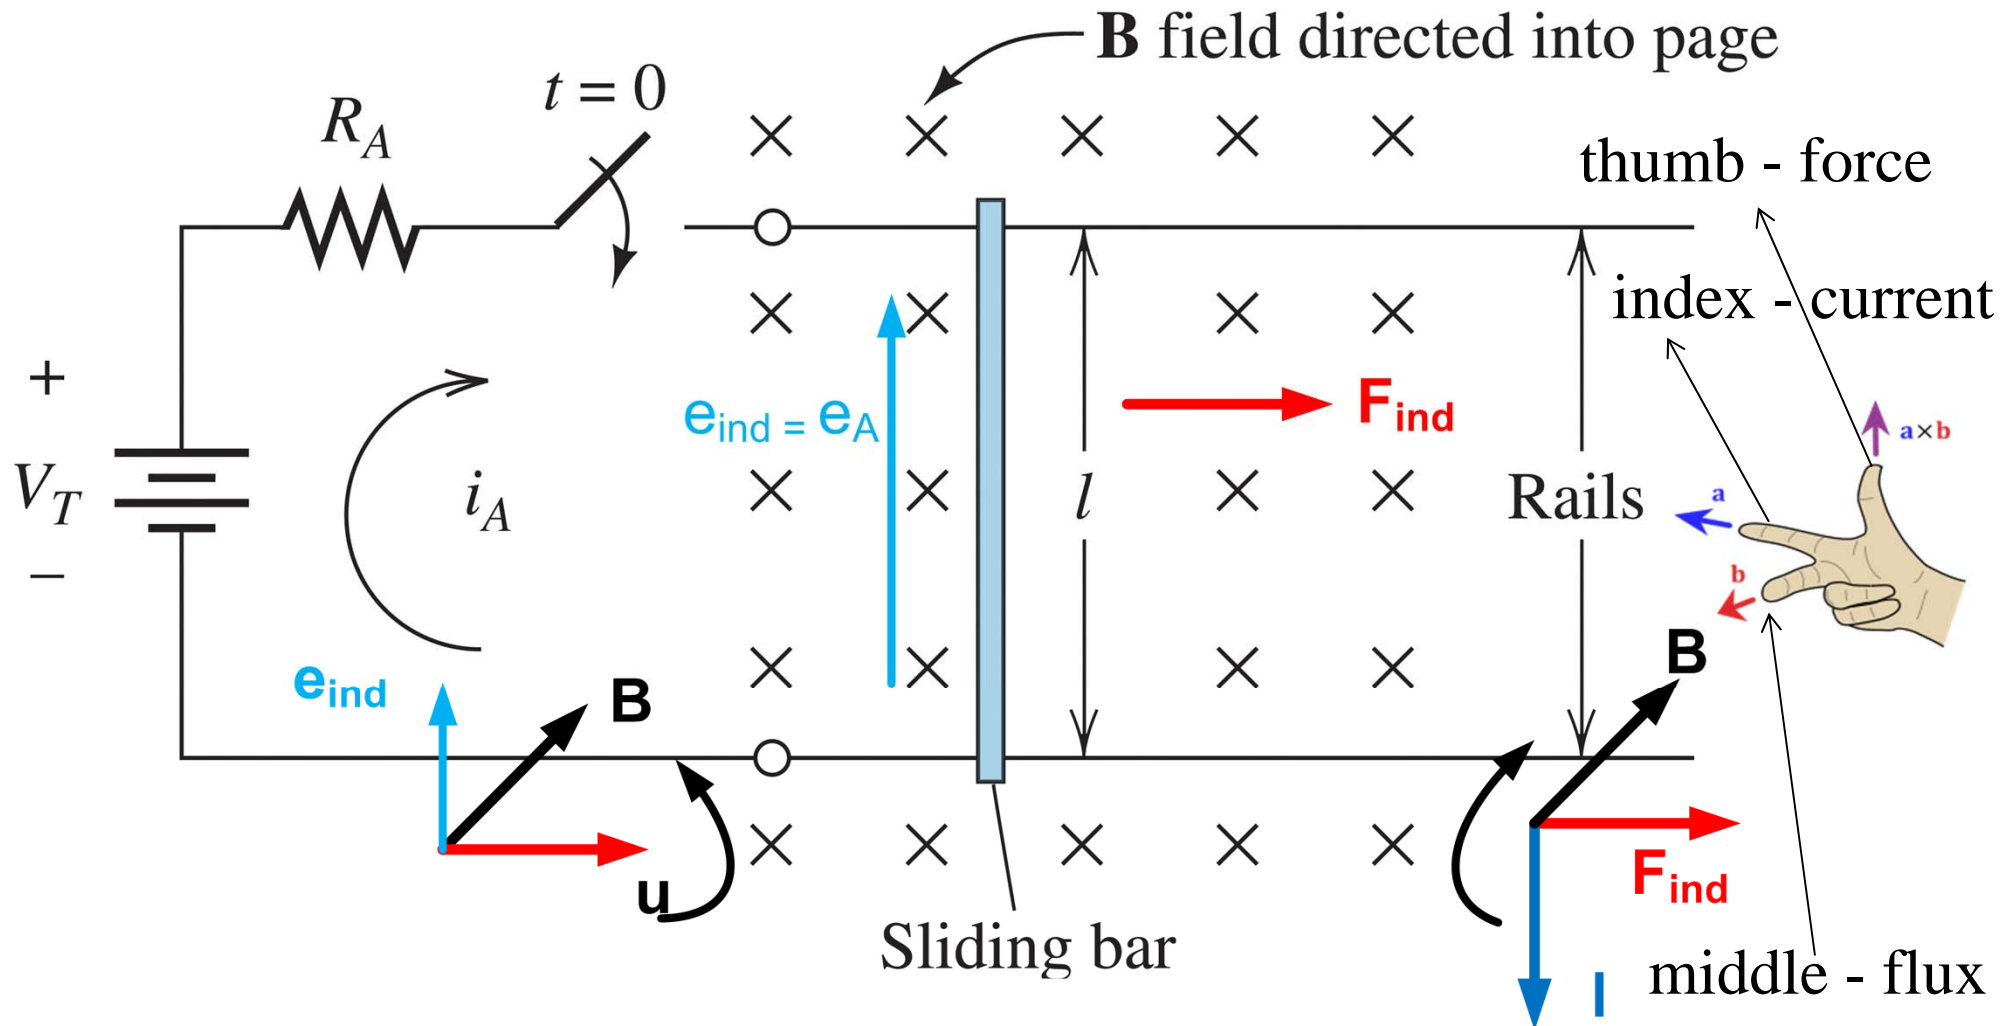

Fig. 5.2: A simple dc machine consisting of a conducting bar sliding on conducting rails.
- We introduce the basic principles of DC machines by considering the idealized linear DC machine as shown in Fig. 5.2.
Example 5.1: Suppose that for a linear machine as shown in Fig. 5.2, we have $B = 1 \text{ Wb/m}^2$, $l = 0.3 \text{ m}$, $V_T = 2 \text{ V}$, and $R_A = 0.05 \Omega$.